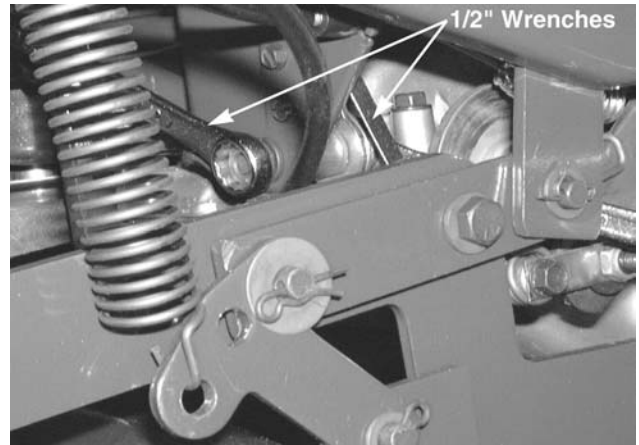

Figure 8-51.
8. Remove the hex nut and lock washer from the shift lever cap screw using two 1/2" wrenches. See Figure 8-51.